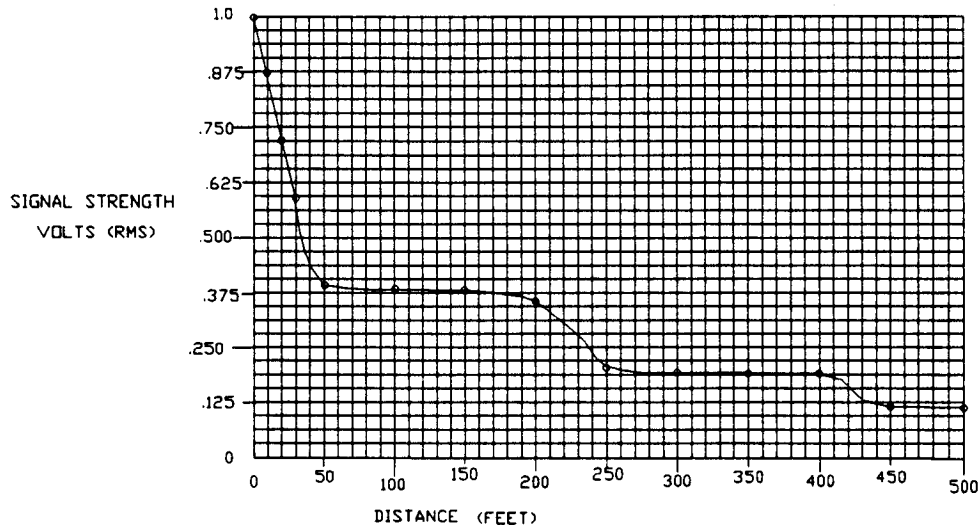

FIGURE 10B: ACCEPTABLE SIGNAL STRENGTH VOLTAGES
4. On the bottom of the graph shown in figure 10B, find the distance that is closest to your estimate. The curve shows the acceptable signal strength voltages for the various distances. Compare the AC voltage you noted on the meter with the voltage shown on the graph.
NOTE: The voltages shown in figure 10B are **RMS values**.